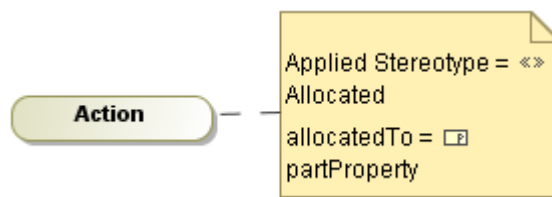

Figure 192 -- An Action allocated to a partProperty
- The value of the **allocatedTo** tag, under the **Allocated** stereotype, of the **Action** is **partProperty** (Figure 192).